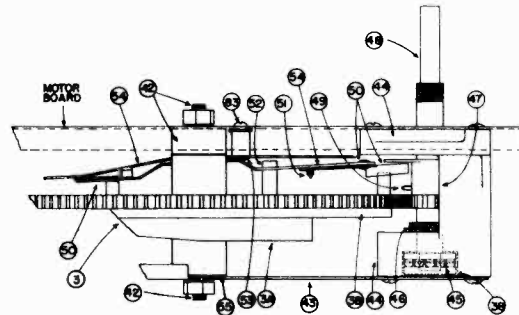

Fig. 7
In its normal position the starting lever (50) has an extension at the gear end which lies between the starting pin (49) and the drive shaft gear extension (see Fig. 7). When the starting lever drops, as indicated above, the extension engages the starting pin (49) forcing the master cam and gear (3) to turn. The starting pin and starting lever extension engage long enough to allow the teeth to mesh and complete the rotation.